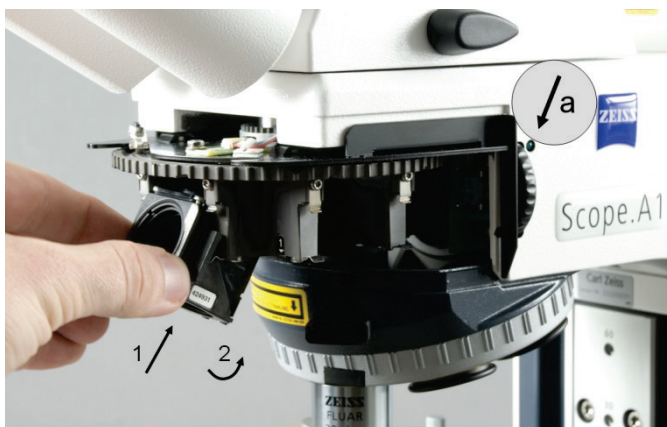
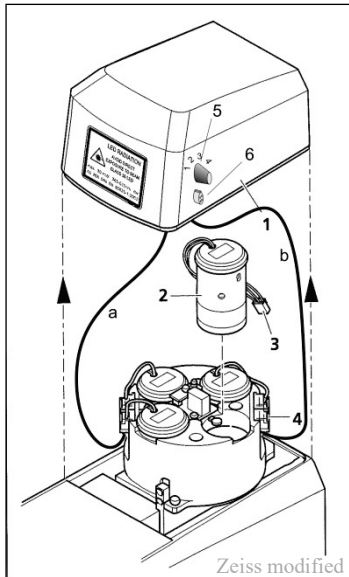

Fig. 60: Mounting the reflector module
Fig. 65: Changing the LED module in the upper stand part FL-LED
A grey circle (a) in Fig. 60 marks the switch that normally regulates the LED modules. Since the LED modules for PAM use will be connected via the top cover of the microscope with the central control unit of the imaging system (IMAG-CG), this switch is not active anymore (see chapter 6.4.4).
The integration of LED modules in the AxioScope.A1 is shown in Fig. 65.
In the case that the AxioScope.A1 shall also be used for further epifluorescence applications beside PAM measurements, the electrical connections shown in Fig. 65 (cables **a** and **b** connecting the LED modules with the IMAG-CG unit via rotary switch indicated with number 5) have to be modified depending on the number of LED modules used for each application. Please ask for technical assistance at the Heinz Walz GmbH if a combined application is intended.
Please Note: If cables **a** and **b** in Fig. 65 are connected the switch for the epifluorescence lamps on the right side of the microscope is not active (Fig. 60 grey circled a).
For the use together with IMAGING-PAM MICROSCOPY version the LED modules have to be connected with the central control unit IMAG-CG. The provided connection cable for the LED modules has to be connected with the 3-pin connector (Fig. 65 number 6) on the cover cap of the Zeiss AxioScope.A1 and with the 6-pin “MINI-Head” connector on the IMAG-CG control unit.
- MICROSCOPY-version: IMAG-L625M5 and IMAG-L470M5 is connected via MINI-Head cable from the 3-pin connector (Fig. 65 number 6) on the cover cap of the Zeiss